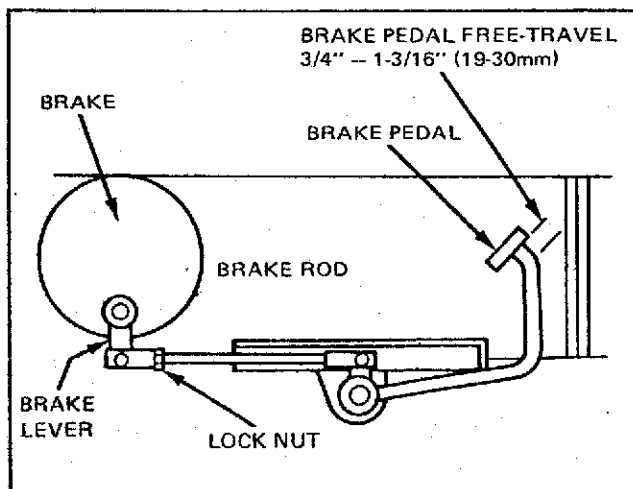

Figure 54 — Brake Pedal Adjustment
2. Loosen the lock-nut, Figure 54, and rotate the brake rod as necessary until there is  $3/4$  —  $1-3/16$  in. (19-30 mm) of pedal free play. Lengthening the rod increases free play while shortening the rod decreases free play.